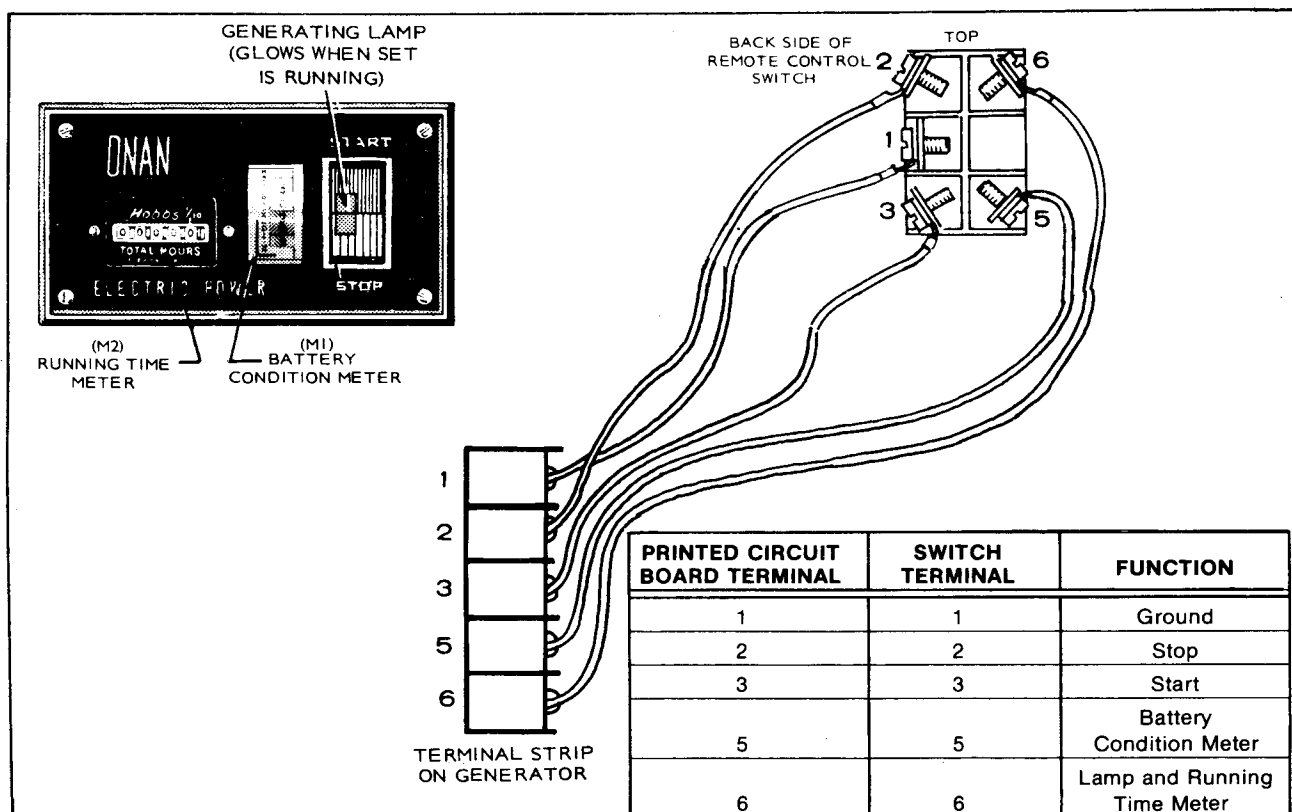

FIGURE 19. CONNECTING DELUXE REMOTE CONTROL (300-0986)
2. Following national and local electrical codes and using five insulated wires of predetermined length (#18 or larger), connect remote control to terminals on generator. Ensure that leads from remote control connect to corresponding terminals on generator terminal board. See Figure 19.